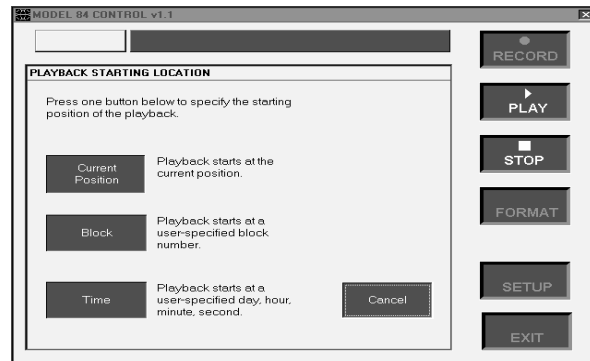

Figure 2-11 PLAYBACK STARTING LOCATION Screen
4. Select **OK** to open the **PLAYBACK STARTING LOCATION** Screen (see Figure 2-11) or **Cancel** to return to the
5. The PLAYBACK STARTING LOCATION Screen opens (Figure 2-11). Select Block.